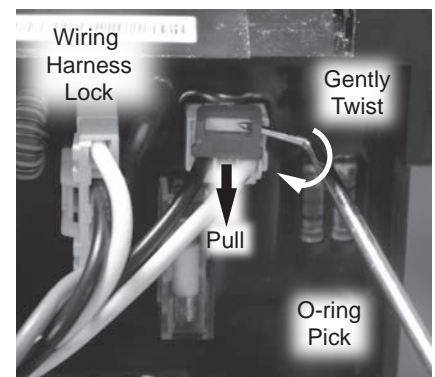

Figure 47 - Red harness lock removal
- 8 On connection point "A2", use an O-ring pick to apply pressure to the point shown in Figure 47 while pulling the harness from the board. Remove "lock" and place aside in a safe place for reinstallation.